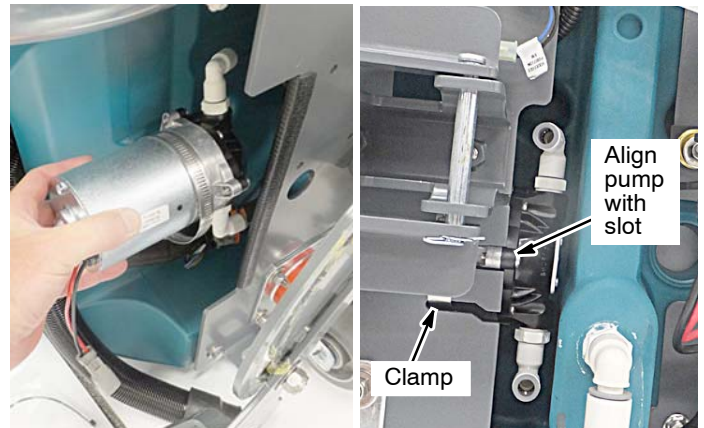

Fig. 17
5. Insert the pump assembly from the rear of machine and mount it to the machine frame tab with hose clamp as shown. Rotate the elbow fittings as shown (Figure 17).